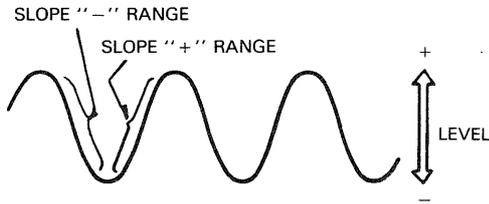

Fig. 9
Trigger point on waveform is adjusted by the LEVEL/PULL ⑰ control. Fig. 9 shows the relationship between the SLOPE and LEVEL of the trigger point. Triggering level can be adjusted as necessary.